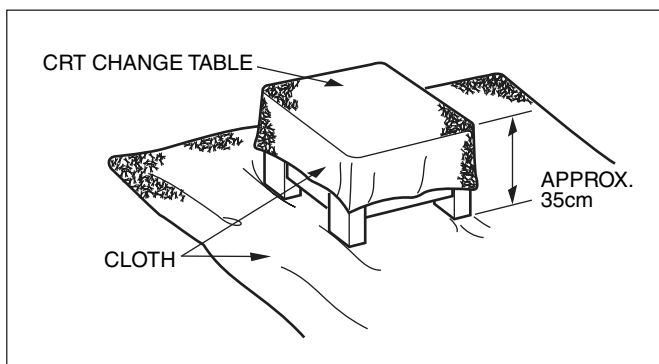

Fig. 2
- 1. Putting the CRT change table on soft cloth, the CRT change table should also be covered with such soft cloth (shown in Fig. 2).